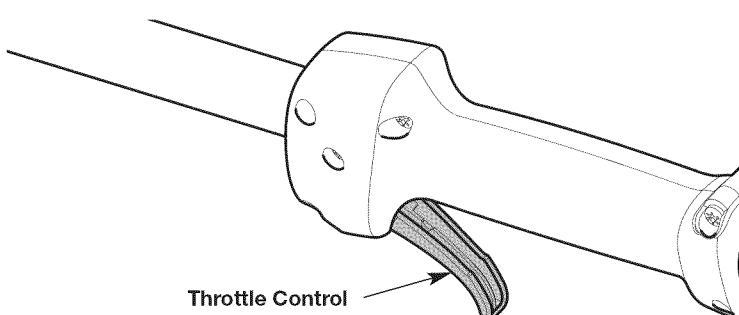

Fig. 12
**NOTE: SQUEEZE and HOLD the throttle control for ALL further steps (Fig. 12).**